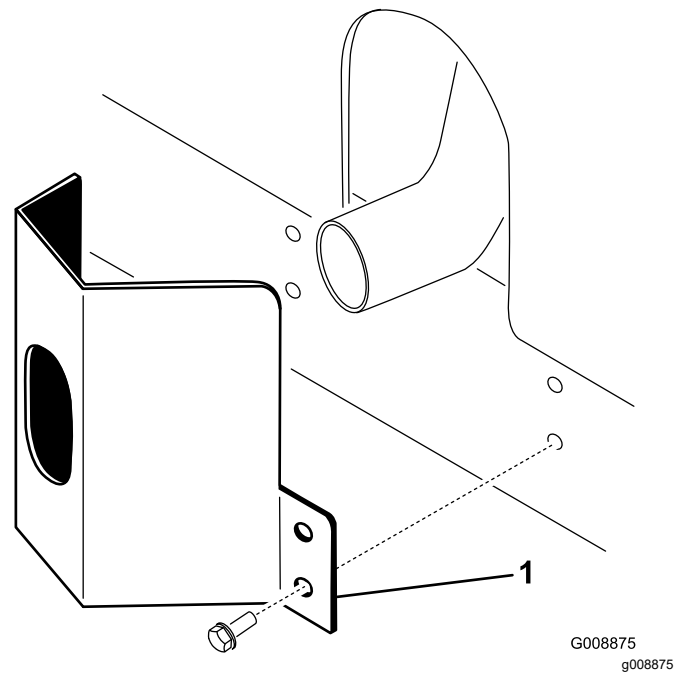

Figure 11
1. Position the exhaust guard around the muffler while aligning the mounting holes with the holes in the frame (Figure 11).
2. Secure the exhaust guard to the frame with 4 self-tapping screws (Figure 11).